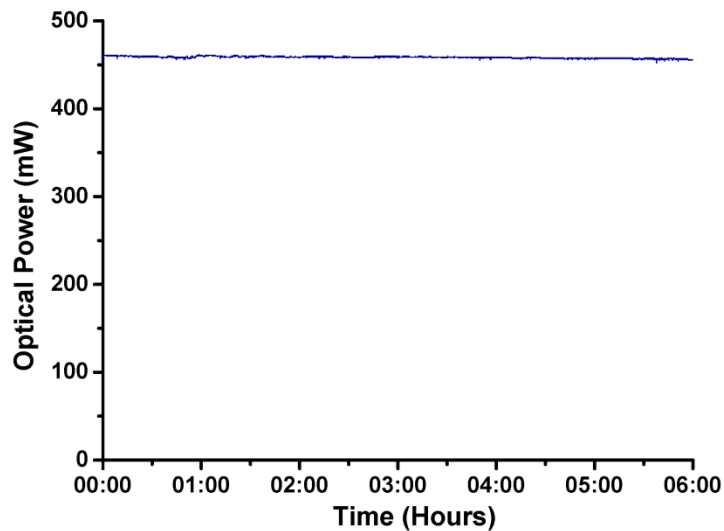

Fig. 20 Stability graph
86. Femtosecond operation starts from moving of optical elements. Once started, femtosecond operation should last for hours at good pump laser stability and in stable room conditions ($\pm 2^{\circ}\text{C}$) **Fig. 20**. When femtosecond operation disappears, start it again with mechanical movement of P2 or turn on the Electronics module \(Starter\).
3. Ti:Sapphire will give proper characteristics after 30 minutes of warm-up if you use a standard pump laser. Pump power should be stable from day to day (*Fig. 20*).